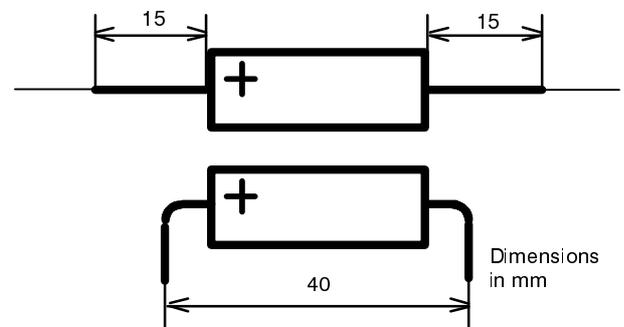

Figure 7.1 Bending the back-up battery for relays with screwed terminal for the battery
- **Only for relays with screwed terminal for the battery:** Prepare the battery as in Figure 7.1: